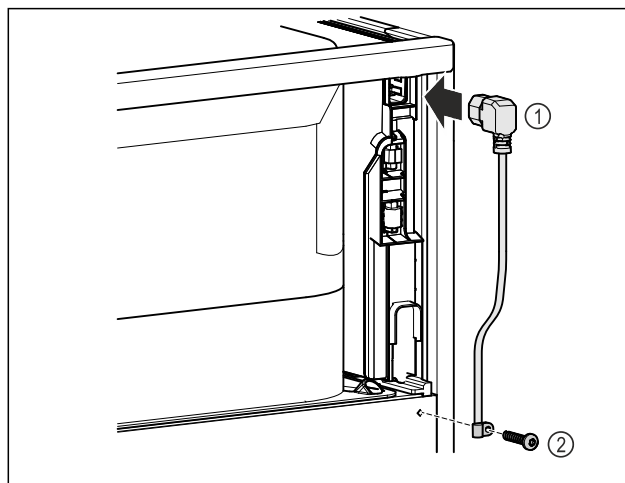

Fig. 11
- IEC socket of the power cable Fig. 11 (1) on the rear side of the appliance.
- Install mains tension relief. Fig. 11 (2)